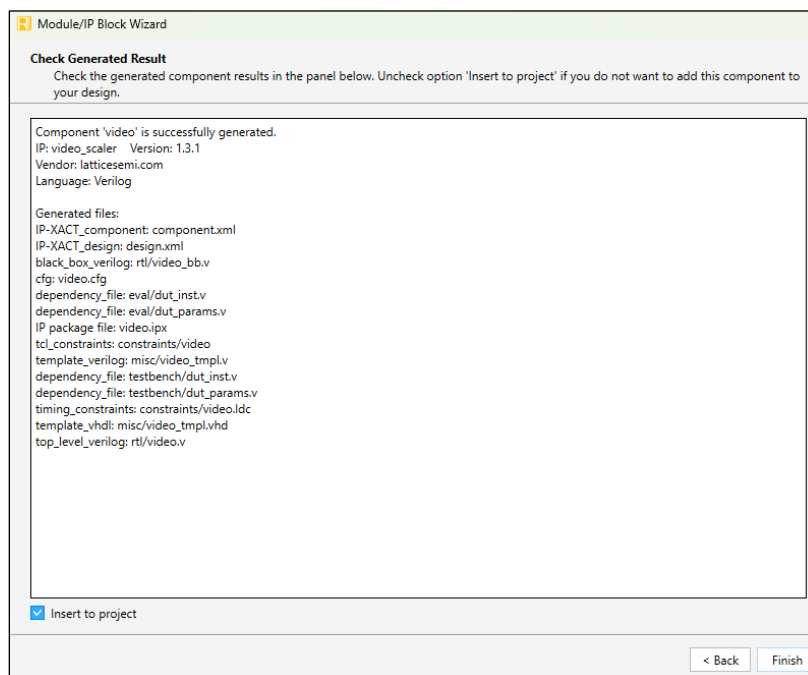

Figure 6.3. Check Generated Result
- Click **Generate**. The **Check Generated Result** page opens, showing design block messages and results as shown in Figure 6.3.